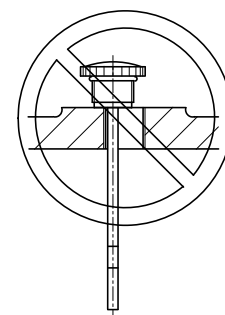

Fig. 24
- Screw the dipstick to its deepest position to check the oil level; otherwise, the measured oil level will be incorrect (Fig. 24).